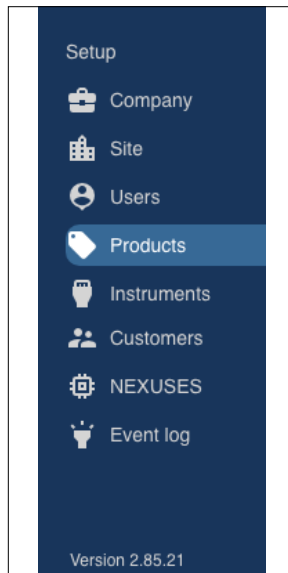

Figure 73 SKALA Main Menu
2. Select Products from the SKALA Main menu to open the Product groups page (Figure 73).